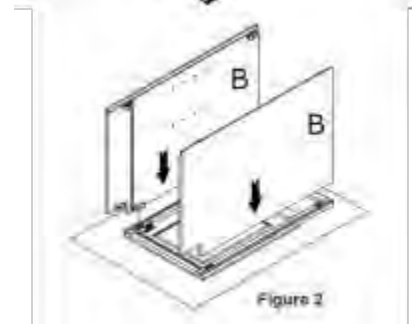

Figure 2
**2. Installing the Side Panels (Figure 2):** Insert right and left side panels (B) into the grooves of the face frame (A) and align the cam lock connectors (Figure 2). Lock the cam with a screwdriver by turning the screw 180° degrees clockwise (Figure 4).